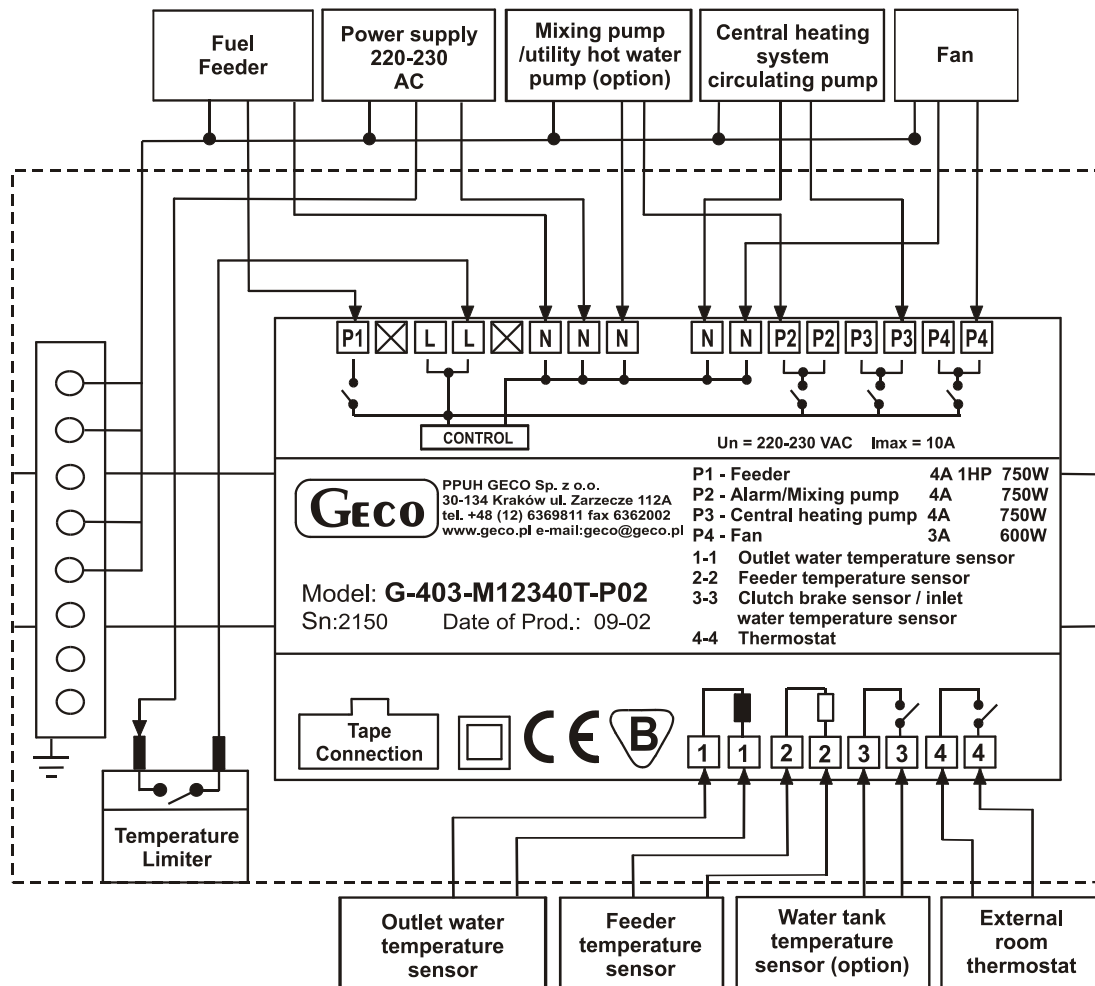

Figure 2. Diagram of equipment connection to the G-403-P02 controller
The controller has been augmented with the option of the realization of the boiler minimal temperature through the operation of the mixing pump connected to the alarm output (see figure 2).
4. Connect the **utility hot water temperature sensor** (**) to the controller terminals as shown in figure 2.
5. Set the G-403-P02 controller appropriate parameters (see item 8.2).
/See: fig. 2 page 15/